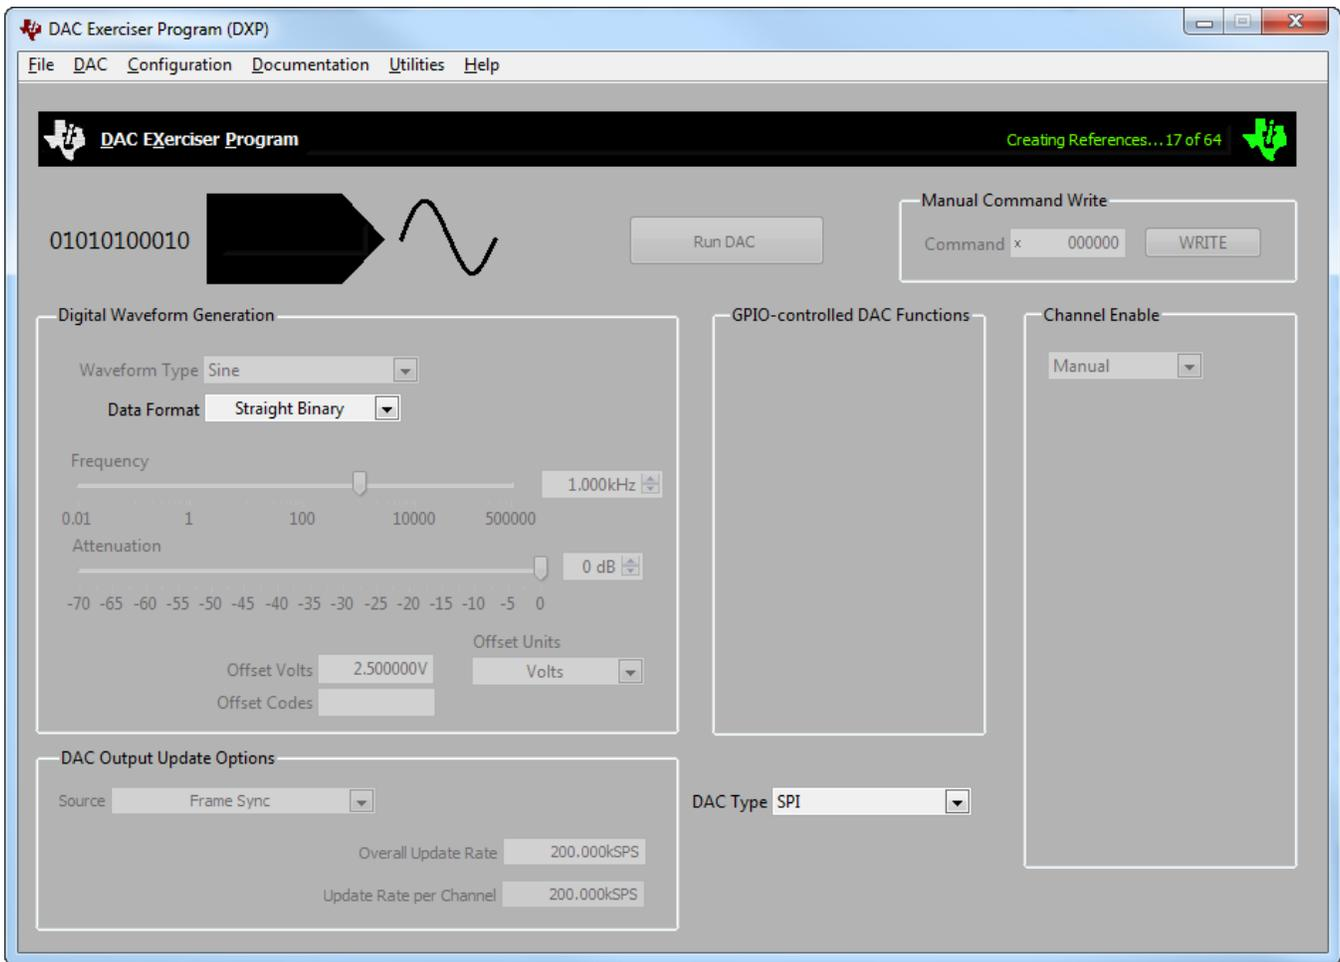

Figure 10. DXP Loading
1. From the Windows **Start** menu, select *All Programs*→*DXP*→*DXP*. On start-up the software will begin loading the resources as shown in Figure 10.